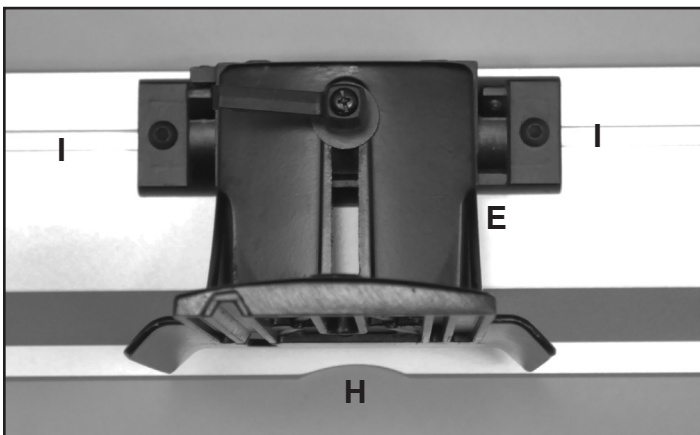

FIG. 3
3. Adjust the fence sliding bracket (E) to the middle of the fence at the center of the fence cut-out (H). Use two M6x16mm socket button head screws (I) to lock the sliding bracket in position. FIG. 3.